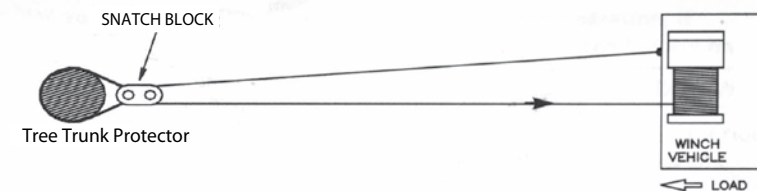

Figure 17
4. Figure 17 illustrates a method of rigging used to obtain a mechanical advantage. The use of a pulley block will almost double pulling line capacity.